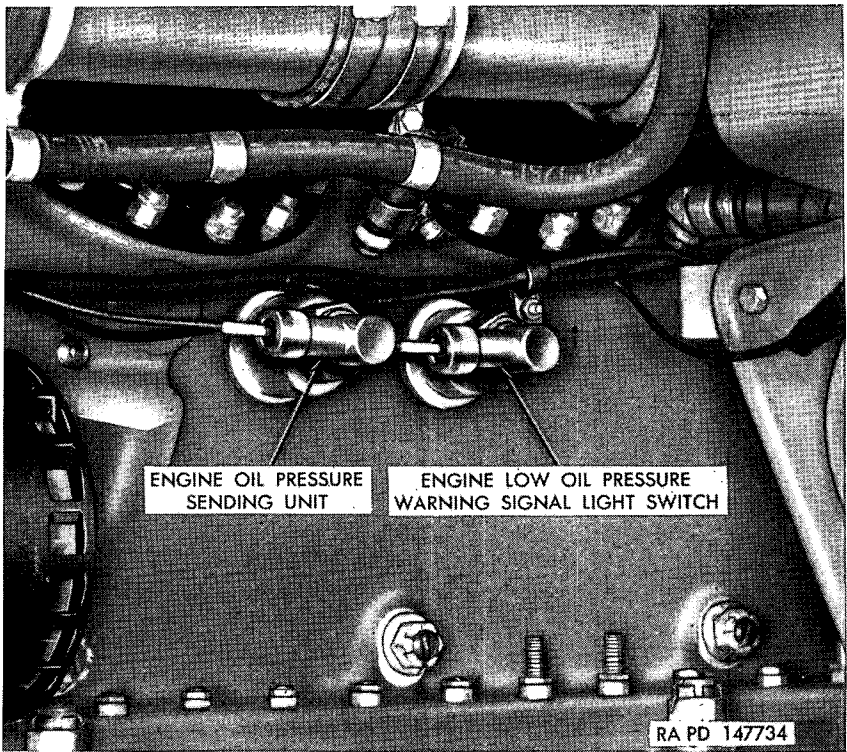

Figure 199. Engine oil-pressure-gage sending unit and low-oil-pressure-warning-signal-light switch—installed view.
- (1) *General.* Engine oil-pressure-gage sending unit is located on right center of engine crankcase (fig. 199). This unit is electrically connected to the engine oil pressure gage mounted on the instrument panel (fig. 18). The sending unit is an hermetically-sealed variable resistance unit, pressure operated through a diaphragm and capable of indicating a range of from 0 to 120 psi.
- (2) *Removal.* Turn off master relay switch (fig. 18). Remove main generator access hole cover (N, fig. 285) from left-bottom of hull by removing the nuts and lock washers securing it. Remove electrical cable angle connector (cable 36) plug from sending unit (fig. 199). Unscrew switch from side of engine crankcase using wrench 7950049.
- (3) *Installation.* Carefully start sending unit into engine crankcase (fig. 199) and tighten. Connect angle connector plug (cable 36) to sending unit. Position main generator access
- (1) *General.* The engine low-oil-pressure-warning-signal-light switch is located on the right-center of the engine crankcase to the rear of the main generator (fig. 199). This switch is electrically connected to the warning signal light marked "LO OIL PRESS" on the instrument panel (fig. 18).
- (2) *Removal.* Turn off master relay switch (fig. 18). Remove main generator access hole cover from left-bottom of hull (fig. 285). Remove angle connector plug (cable 34) from switch (fig. 199). Unscrew switch from side of engine crankcase and remove.
- (3) *Installation.* Screw switch (fig. 199) into side of engine block until tight. Connect angle connector plug (cable 34) to switch connector receptacle. Install main generator access hole cover to bottom of hull (fig. 285).